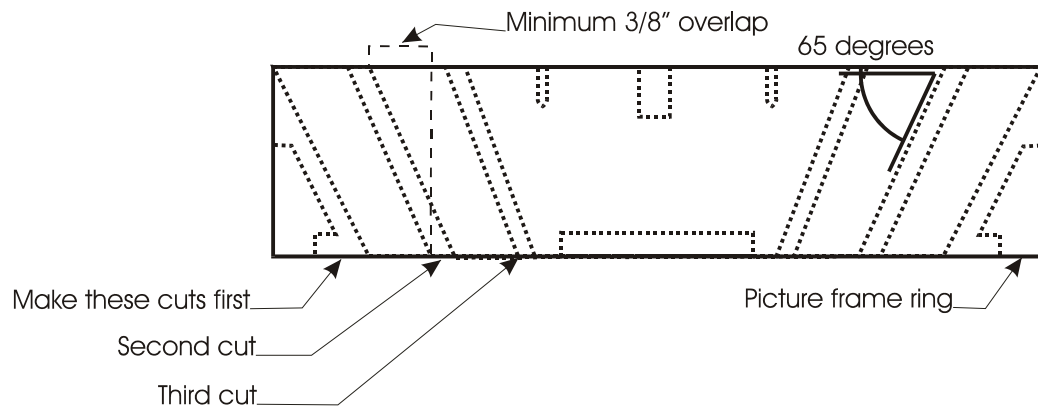

Figure 2: Sample drawing for 8" by 2" blank, with three sections.
- f. The outside ring may be used for a round picture frame. Cut an additional rebate about 1/4" deep before cutting the ring. See Figure 2.
Note: You must start with the cuts farthest from the center and work inward, as shown in Figure 2 on page 2.
- 1) Tape a copy of your initial layout drawing (see Figure 2 on page 2) on the toolrest. Make sure the toolrest is parallel to the work piece, and that the drawing is centered to the work piece.